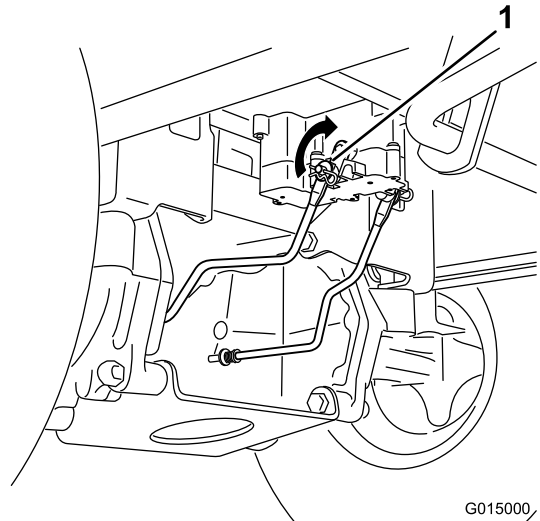

Figure 44
1. Locate the shaft on the electric brake where the brake-link arms are connected (Figure 44).